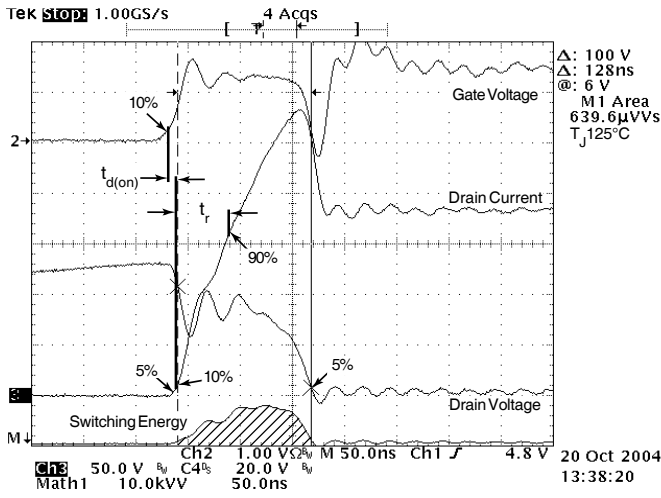

Figure 18, Turn-on Switching Waveforms and Definitions
① Repetitive Rating: Pulse width limited by maximum junction temperature
② Pulse Test: Pulse width < 380 μs , Duty Cycle < 2%
③ See MIL-STD-750 Method 3471
④ Starting $T_j = +25^\circ C$, $L = 0.470mH$, $R_G = 25\Omega$, Peak $I_L = 74A$
⑤ dv/dt numbers reflect the limitations of the test circuit rather than the device itself. $I_S \leq -I_D 74A$ $di/dt \leq 700A/\mu s$ $V_R \leq V_{DSS}$ $T_J \leq 150^\circ C$
⑥ E_{on} includes diode reverse recovery. See figures 18, 20.